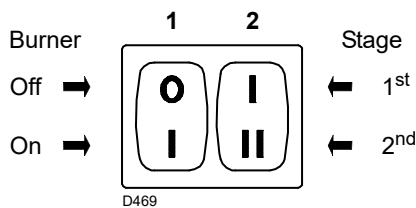
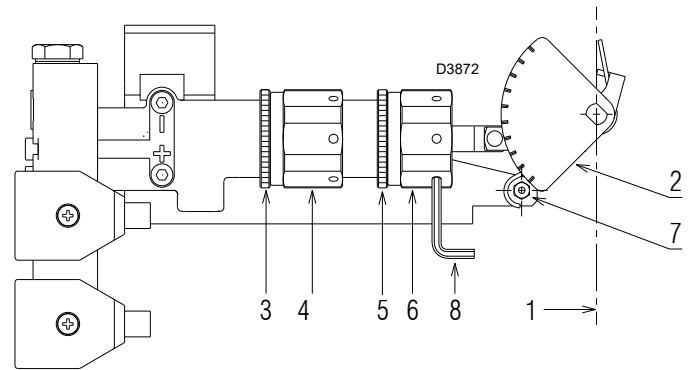

Fig. 24
Fig. 25
Set switch 1)(Fig. 24) to "ON".
Keep the burner operating at 1st stage by setting the switch 2) (Fig. 24) to the 1st stage position.
Opening of the air gate valve 1)(Fig. 25) must be adjusted in proportion to the selected nozzle: the index 7)(Fig. 25) must be aligned with the specified in (Tab. J).
notch 22° aligned with index 7 (Fig. 25).
Set switch 2) (Fig. 24) to the 2nd stage position and adjust the air gate valve 1) (Fig. 25) by turning the hex element 6), after having loosened the ring nut 5).
in order to facilitate adjustment of hex elements 4) and 6) (Fig. 25 on page 24), use a 3 mmc Allen key 8) (Fig. 25 on page 24).